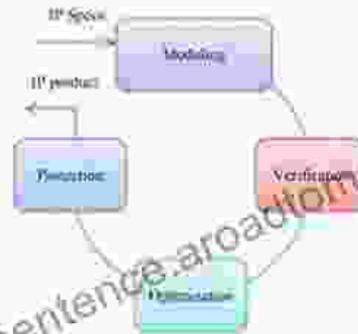

Fig. 1. IP-core life cycle process
Hardware intellectual property (IP) cores have emerged as an integral part of modern system-on-chip (SoC) design. IP cores are pre-designed and pre-verified complex functional blocks. According to their properties, IP cores can be distinguished into three types of cores: hard, firm, and soft, where Soft-cores are architectural modules which are synthesizable and offer the highest degree of modification flexibility. Firm-cores are delivered as a mix of RTL code and a technology-dependent net-list, and are synthesizable with the use of ASIC tools, and Hard-cores are mask and technology-dependent modules. The main differences in design between IC and IP are that in IC number of I/O pins are limited but in IP it is unlimited. Moreover, in IP we can parallelize IP Design. Let us start with the functionality at HDL code but in production, shared parts in the address translatability. IP core life cycle process from specification to production includes four major steps: 1) IP Modeling, 2) IP verification, 3) IP optimization, 4) IP protection. Their Steps are illustrated in Fig. 1, [1], [11]. In this paper, the IP life cycle process is discussed in details.